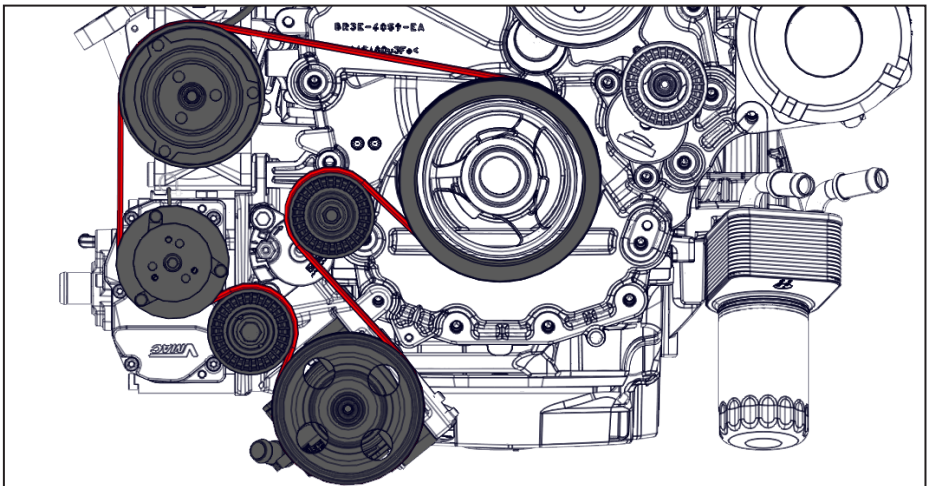

Figure 26 — VMAC belt routing
- Install the supplied 4 rib VMAC Compressor belt so that it is centered on the compressor clutch, and tension the belt (Figure 26).